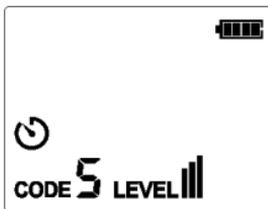

Figure 7.1.2c
- For most applications, the default transmission strength is (default code: 5). As shown in **Figure 7.1.2c**, the level shown on the LCD is .